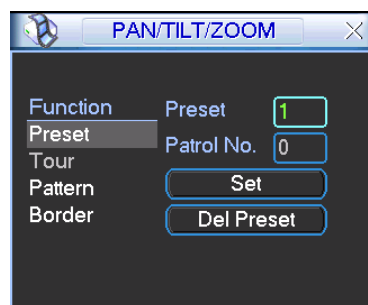
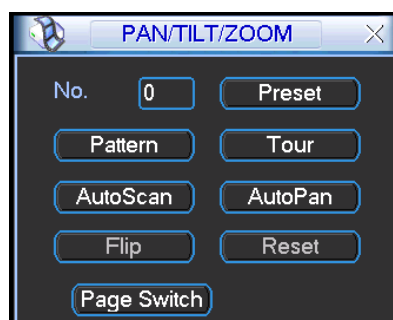

Figure 4-40
Figure 4-41
In Figure 4-37, please click the “set” button. The interface is shown as below. See Figure 4-40. Here you can set the following items:
In _ Figure 4-37, click page switch button, the interface is shown as in Figure 4-41. Here you can activate the following functions:
- The following setups are usually operated in the _Figure 4-37, Figure 4-40 and Figure 4-41.
In Figure 4-40, click preset button and input preset number. The interface is shown as in Figure 4-42.
In Figure 4-41, please input preset number in the No. blank, and click preset button.
In _ Figure 4-40, input patrol (tour) number in the No. blank and click patrol button
In Figure 4-40, click pattern button and then click “begin” button. The interface is shown as in Figure 4-44. Then you can go to Figure 4-37 X to modify zoom, focus, and iris.
In Figure 4-41, click “Auto Scan” button, the system begins auto scan. Correspondingly, the auto scan button becomes Stop button. Click stop button to terminate scan operation.
In Figure 4-41, click page switch button, you can see an interface is shown as below. See Figure 4-46. Here you can set auxiliary function. The aux value has relation ship with the Aux button of the decoder.